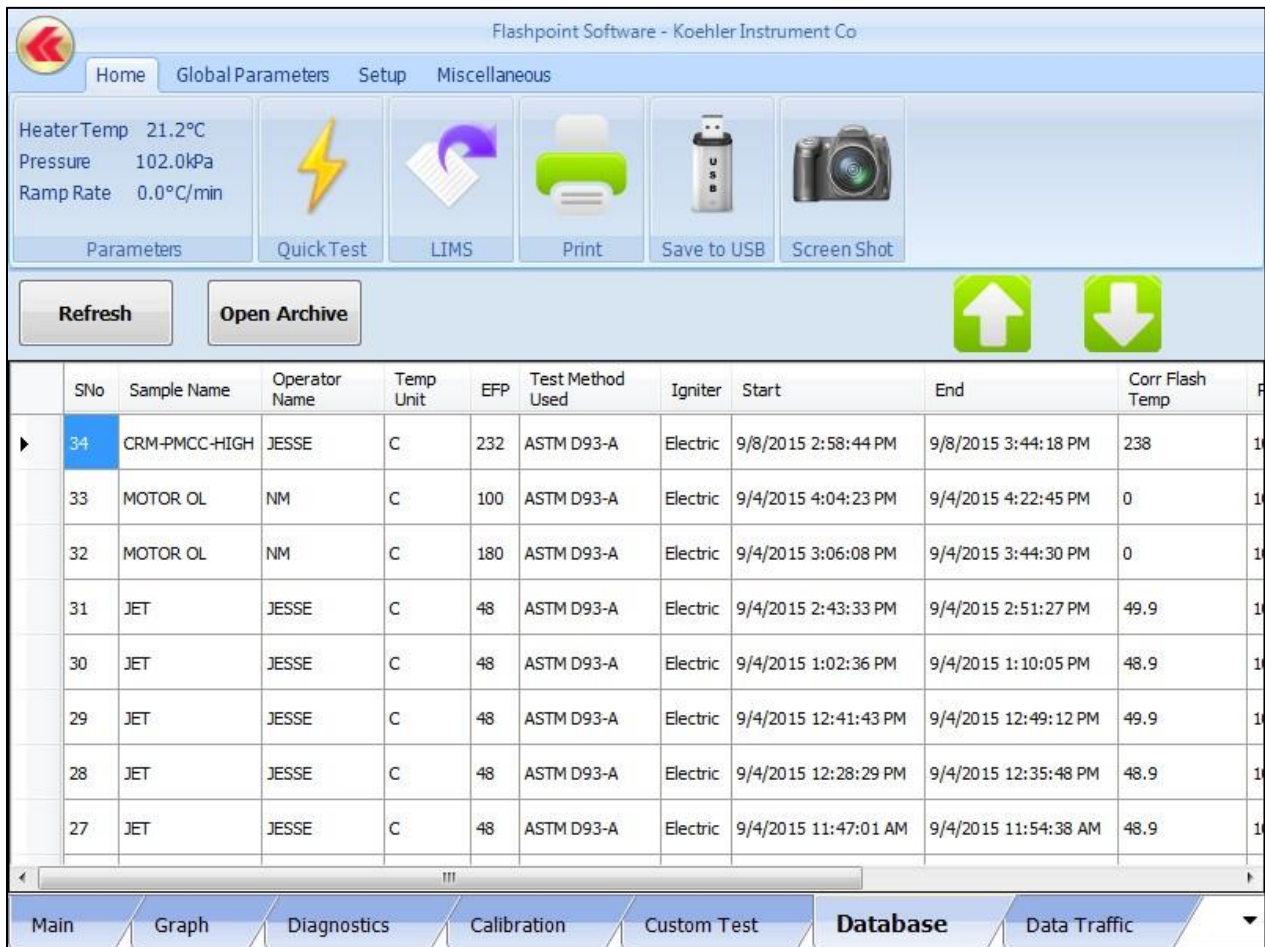

Figure 24: Database Screen
**12. Database Screen** - Clicking on the Database tab will display the Analyzers Database as shown in **Figure 24** below. A maximum of 50 results will be accessible in this menu, the excess of which will be sent to an archive folder in the PC's hardware.